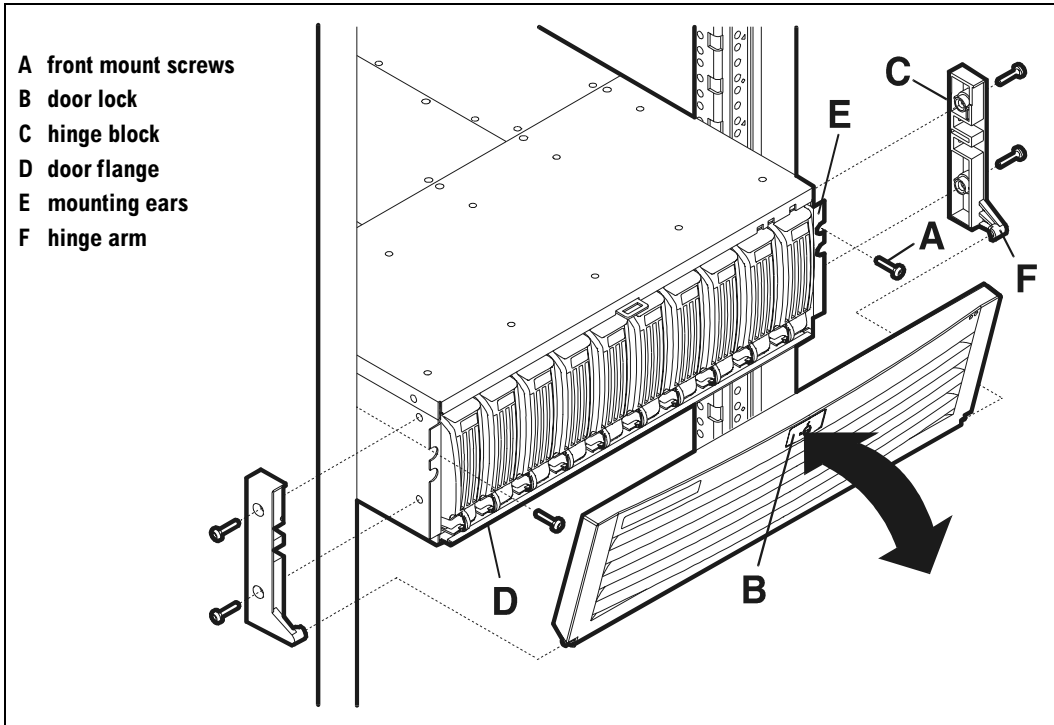

Figure 47 Door Removal and Replacement
4. Remove screws from the mounting ears (E in Figure 47).
2. With the door closed, remove two screws from each hinge block (C in Figure 47).
5. To replace the door, insert the bottom flange (D) of the disk system between the gasket and bottom edge of the new door.
7. Insert the right and left hinge blocks behind the disk system mounting ears (E), aligning all holes and inserting the hinge arm (F) over the pin on the bottom of the door.